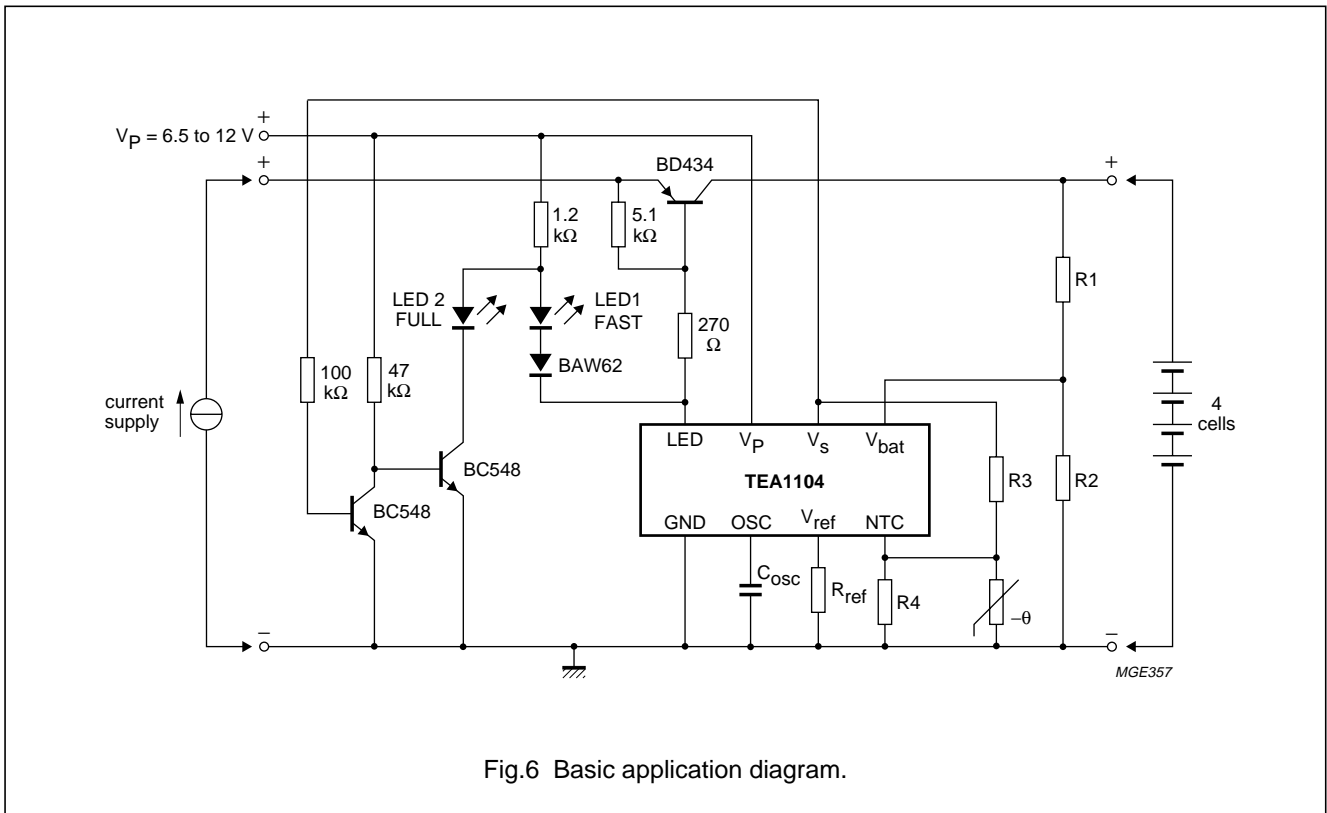
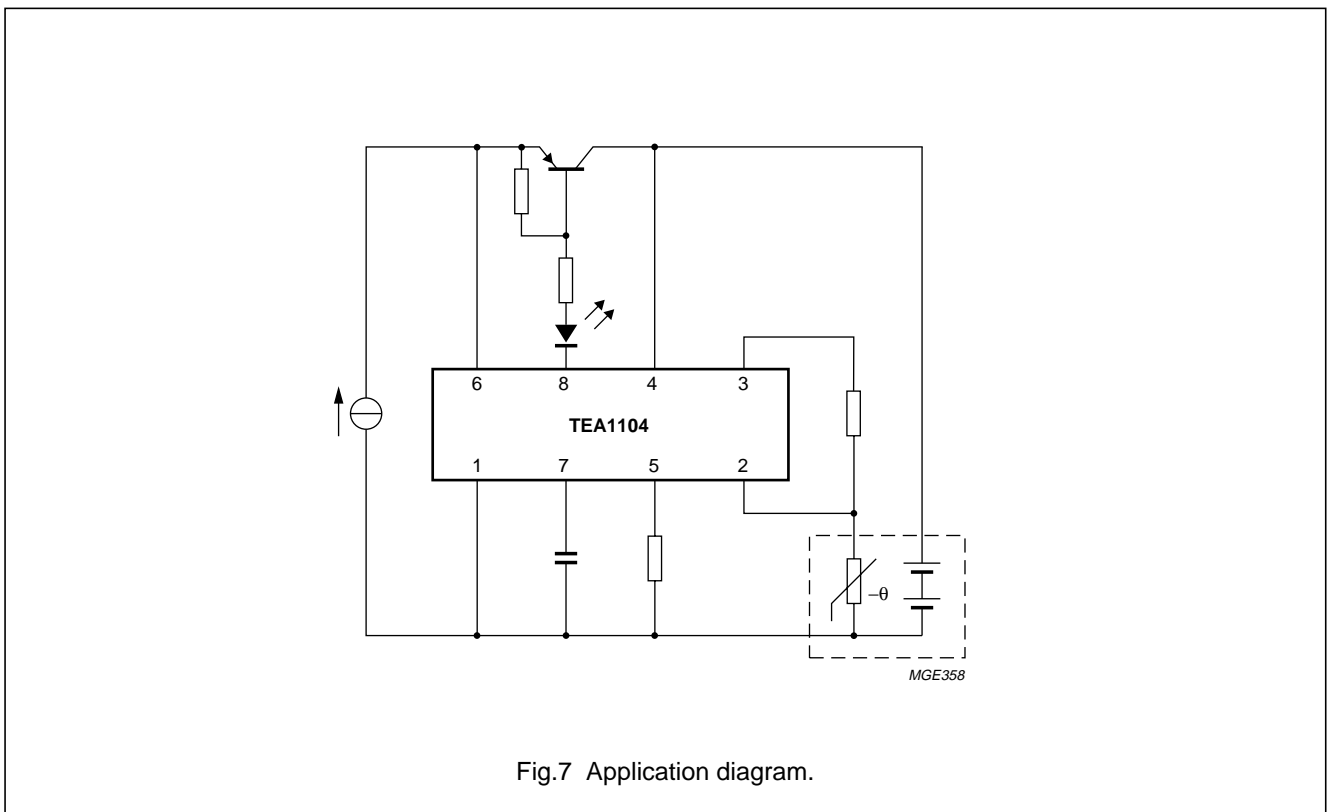

Fig.6 Basic application diagram.
Fig.7 Application diagram.
- (1) $V_{bat} < 0.81\text{ V}$ due to empty or flat battery.
- (2) For single LED application see Fig.7, for dual LED application see Fig.6.
- (3) $V_{bat} > 3.6\text{ V}$ due to system occurrence or an external inhibit via pin V_{bat} .
- (4) Release via reset.
- (5) $T_{min} = V_{NTC} \geq 2\text{ V}$; $T_{max} = V_{NTC} \leq 1\text{ V}$;
A guideline for the settings of TEA1104 and its external components selection is given based on an example of a 1 hour charger for a 4 cell NiCd or NiMH battery pack. The basic application diagram as illustrated in Fig.6 which is based on the application diagram illustrated in Fig.7 with some additional components; a 2 LED charge status indication has been provided.